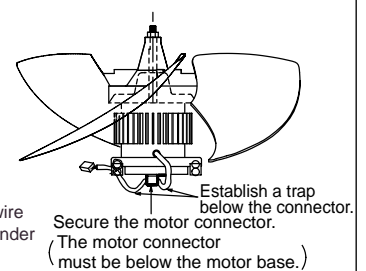

Fig.5
- Connect the motor connectors. Secure the connectors with a clamp below the motor base not directly exposed to rainwater, referring to Fig.5.